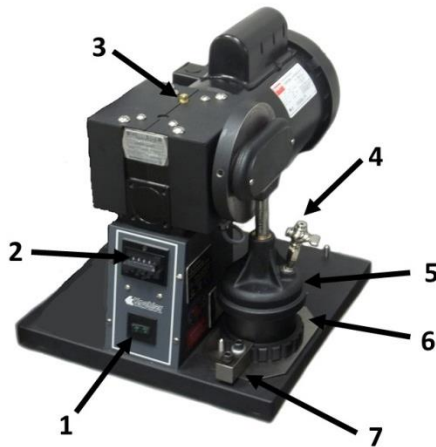

Figure 2: Grease Worker Instrument Descriptions
2. After the counter is set the unit is ready to operate. Press the start/stop switch (**Figure 2, Item 1**). The counter will subtract one count for each full cycle of the motor. When the counter reaches 00000, the motor will shut off.